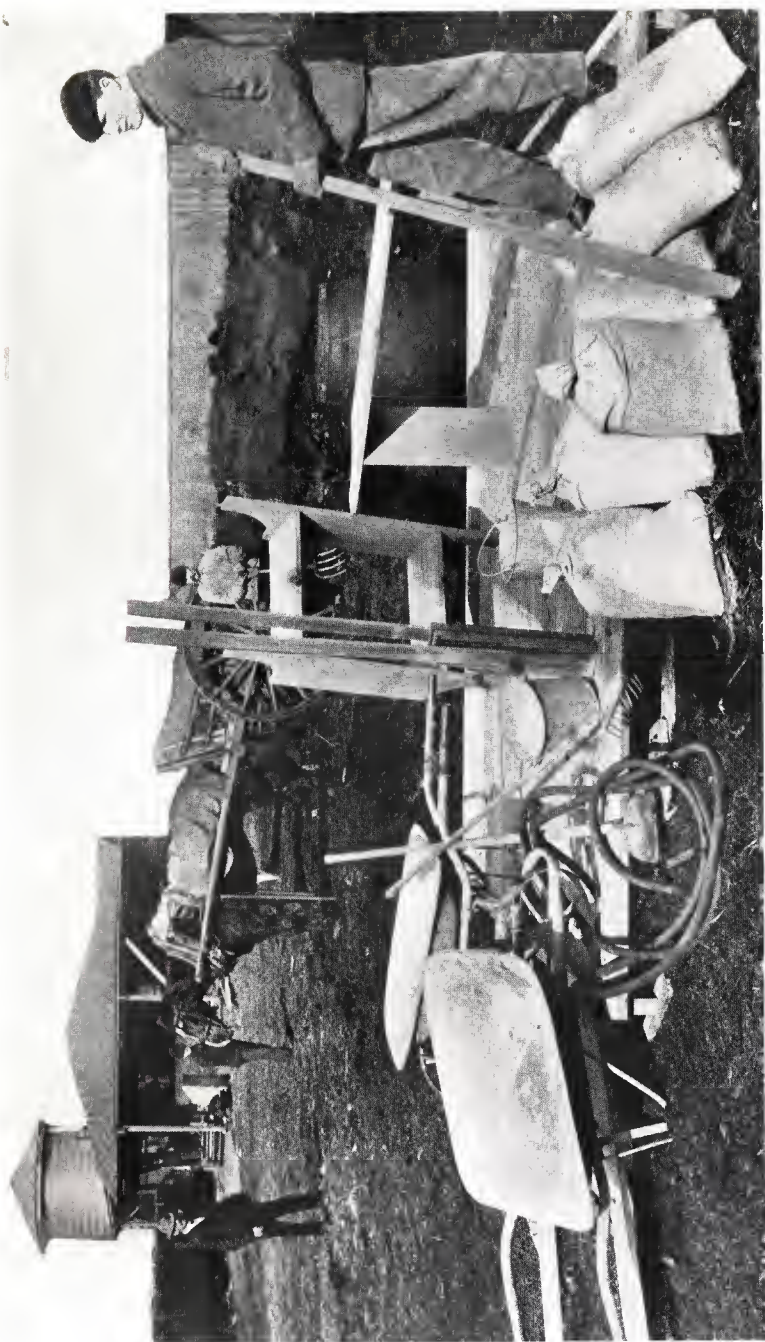
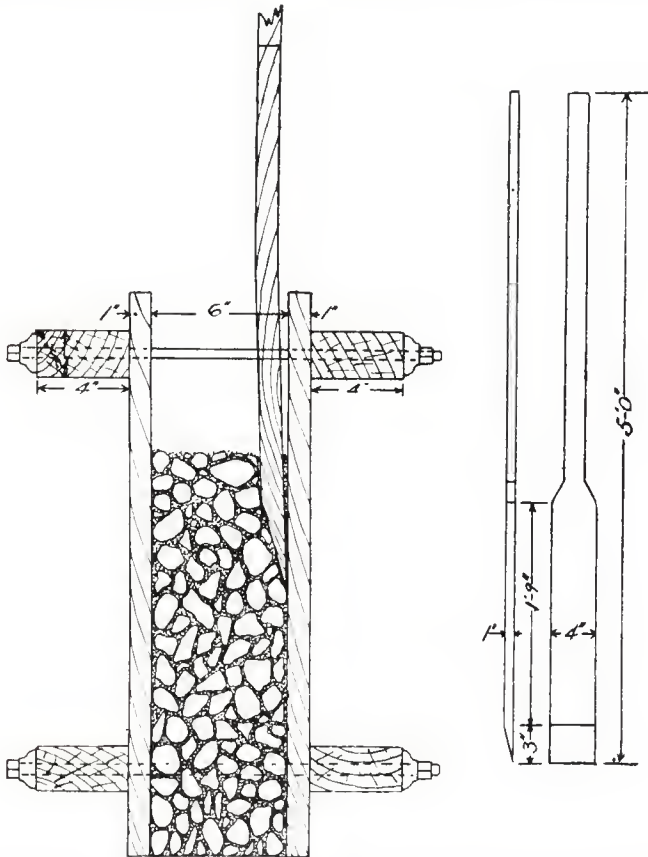

Fig. 3.
Fig. 15—Spading Thin 6-Inch Concrete Wall and Cut of Wooden Spading Tool.
*Measuring Boxes.*—The inside dimensions for the measuring boxes for sand and stone or gravel are given. These boxes can be made of any kind of rough boards and have no top or bottom. (See Fig. 3.)
between the boards. The boards must be drawn up close in nailing so that no cement grout will run through while mixing. Knot-holes may be closed by nailing a strip across them on the under side of the board. It is a good precaution against losing cement grout to nail a 2-inch x 2-inch or 2-inch x 4-inch piece around the outer edge of the board. Often 2-inch planks are used in making concrete boards, but these are unnecessarily heavy and very cumbersome to move. (See Fig. 3.)
Note: The 2 pcs. 4' long and the 2 pcs. 6' long have an extra foot in length at each end to be made into a handle, as shown in Fig. 3.
Note: The 2 pcs. 5' long and the 2 pcs. 6' long have an extra foot in length at each end to be made into a handle, as shown in Fig. 3.
*Tamper*.—4"  $\times$  4"  $\times$  2' 6", with handles nailed to it, as shown in Fig. 3.
*Garden Spade or "Spading" Tool*, as shown in Fig. 15; also shown in Fig. 3, in the hands of the man on the concrete board.
stone or gravel to be pushed back slightly from the form, and allows the cement grout to flow against the face of the form and fill any voids that might be there, thus making the face of the work present an even, homogeneous appearance. Where the narrowness of the concrete section, such as in a 6-inch silo wall, prevents the use of a spade, a 1-inch x 4-inch board, sharpened to chisel edge on the end, will do as well. Only sharpen on one side and place the flat side against the form as shown in illustration. (See Fig. 15.) In the case of a dry mixture, "spading" must be done with greatest care by experienced hands to get uniform results, but with a medium or wet mixture it is very easy to obtain first-class work; indeed, with a wet mixture spading is only required as an added precaution against the possibility of voids in the face of the work, and is really necessary in few cases.